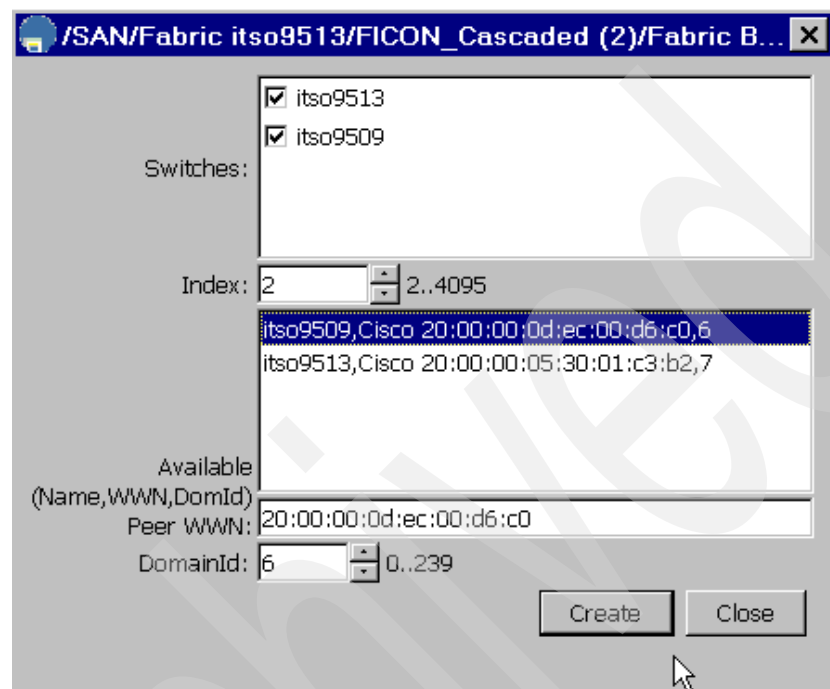

Figure 29 Creation of the fabric binding entry for the 9513 on both switches
2. This opens another window where you can select the sWWNs to add to the fabric binding configuration database. Figure 29 shows adding the 9509 to the fabric binding database of both switches.